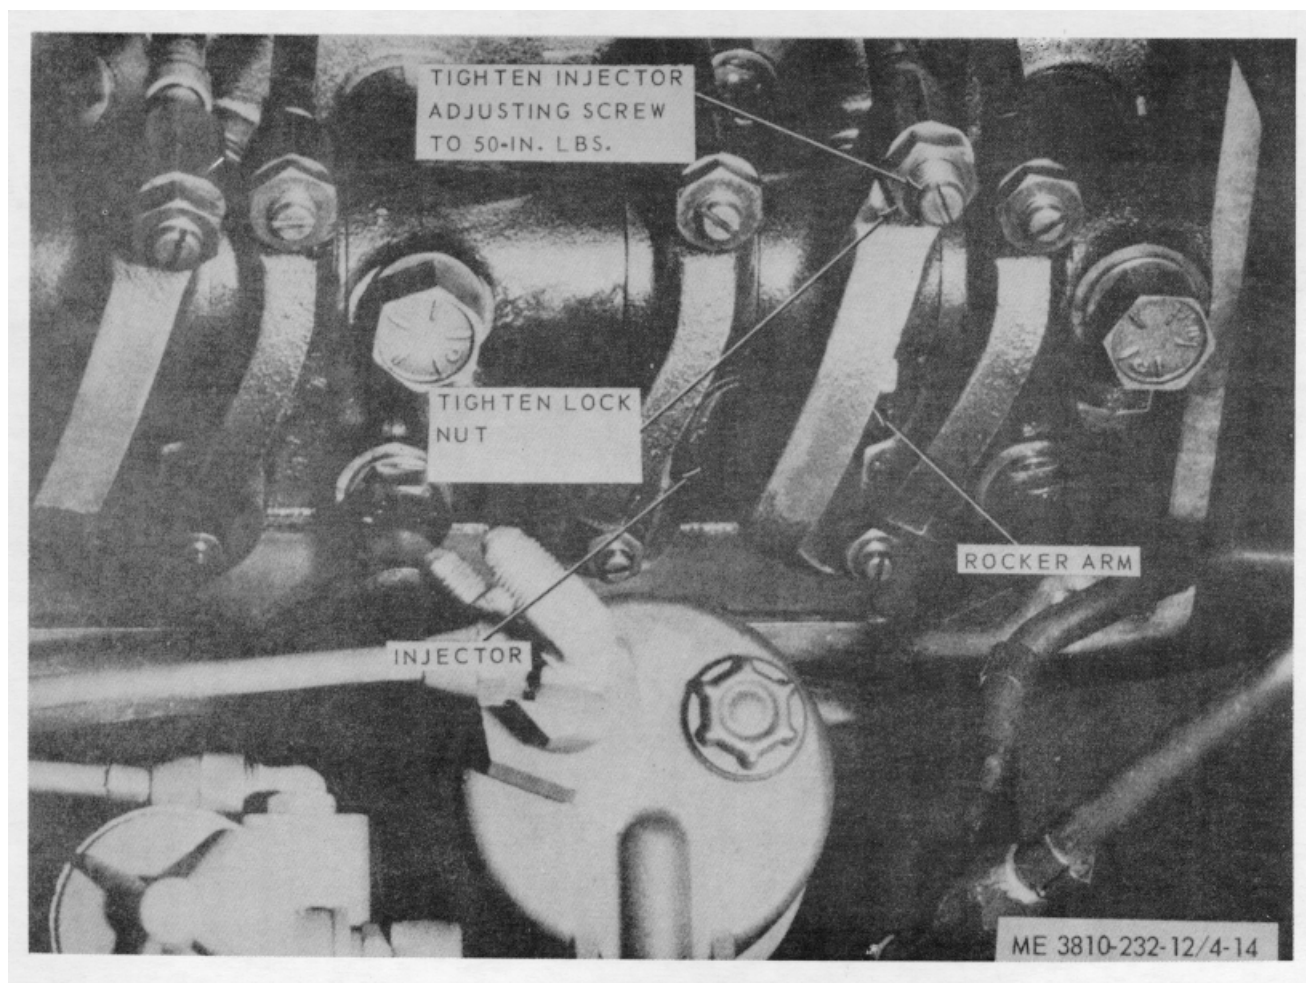

Figure 4-14. Carrier engine fuel injector adjustment.
(1) Loosen locknut and turn adjusting screw clockwise, illustrated in figure 4-14, until plunger contacts the injector cup.